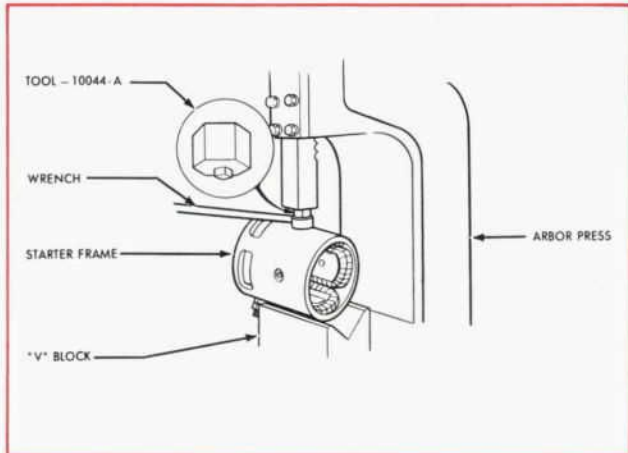

Figure 9—Field Coil Replacement
2. Position the coils and pole pieces, with the coil leads in the terminal screw slot, and then install the retaining screws (Fig. 9). As the pole shoe screws are tightened, strike the frame several sharp blows with a soft-faced hammer to seat and align the pole shoes, then tighten the screws securely.